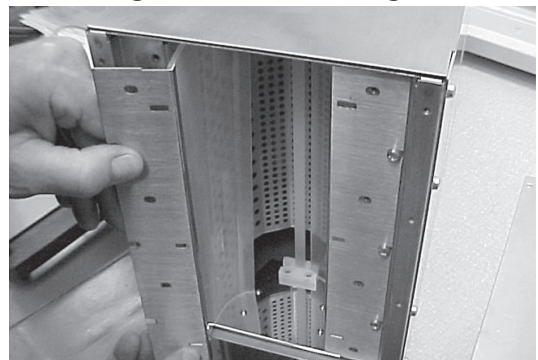

Figure 6-10 Focus Reflector Installation
b. **Flood Reflectors:** See Figure 6-10.